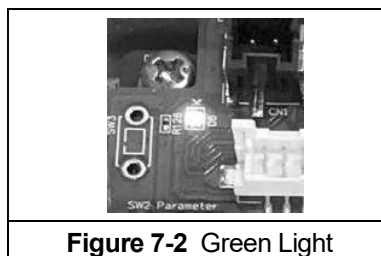

Figure 7-2 Green Light
- Indication during normal operation - During normal operation, the LED is turned on or blinking in green. (See **Figure 7-2**)